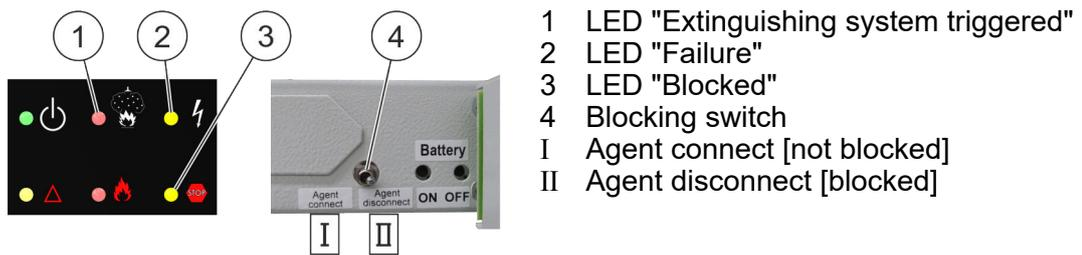

Fig. 42: Blocking
- Block the system prior to a function test. To this end, switch the blocking switch (Fig. 42/4) to "Agent disconnect [blocked]" (Fig. 42/II).
- The upper yellow LED (Fig. 42/2) lights up.
The lower yellow LED (Fig. 42/3) also lights up if a door fitted with a door contact switch is open.
- Prior to removing the blocking, make sure that the upper red LED (Fig. 42/1) is **not** illuminated as the extinguishing process will otherwise be initiated immediately.